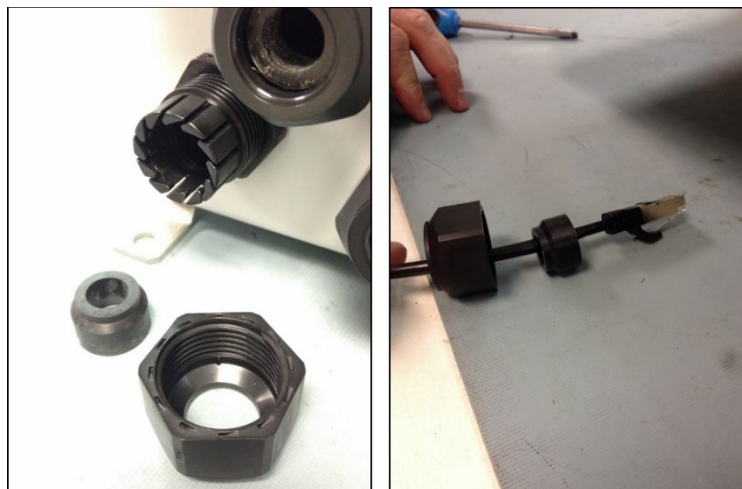

Figure 6-8: Installing an Ethernet cable in the supplied cable gland
If the Ethernet cable is not pre-installed, note that when using the Atonometrics supplied cable gland for bringing a terminated Ethernet cable into the enclosure, the gland must be removed, disassembled, and reassembled around the Ethernet cable as shown in Figure 6-8.
- Supply power and Ethernet to the Hub through a pair of cable glands and connect to the indicated terminals. Note that a large gland is used for Ethernet, and a small gland is used for Power. To install a terminated Ethernet cable in the supplied gland, the gland must be disassembled and reassembled around the cable; see Figure 6-8.